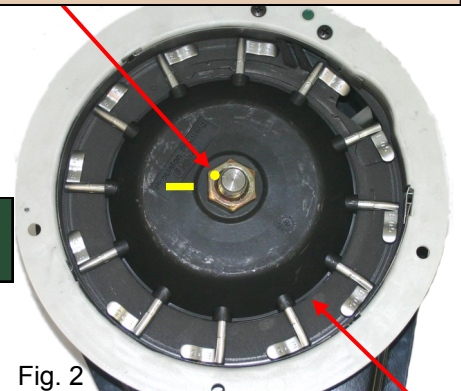

Fig. 2
- Step 4** Tighten the nut $\frac{1}{2}$ - $\frac{3}{4}$ flat past the marked contact point. (A flat is one of the six sides of the nut.) This should create some drag on the finger set, but should not make it hard to turn. (Figure 2)